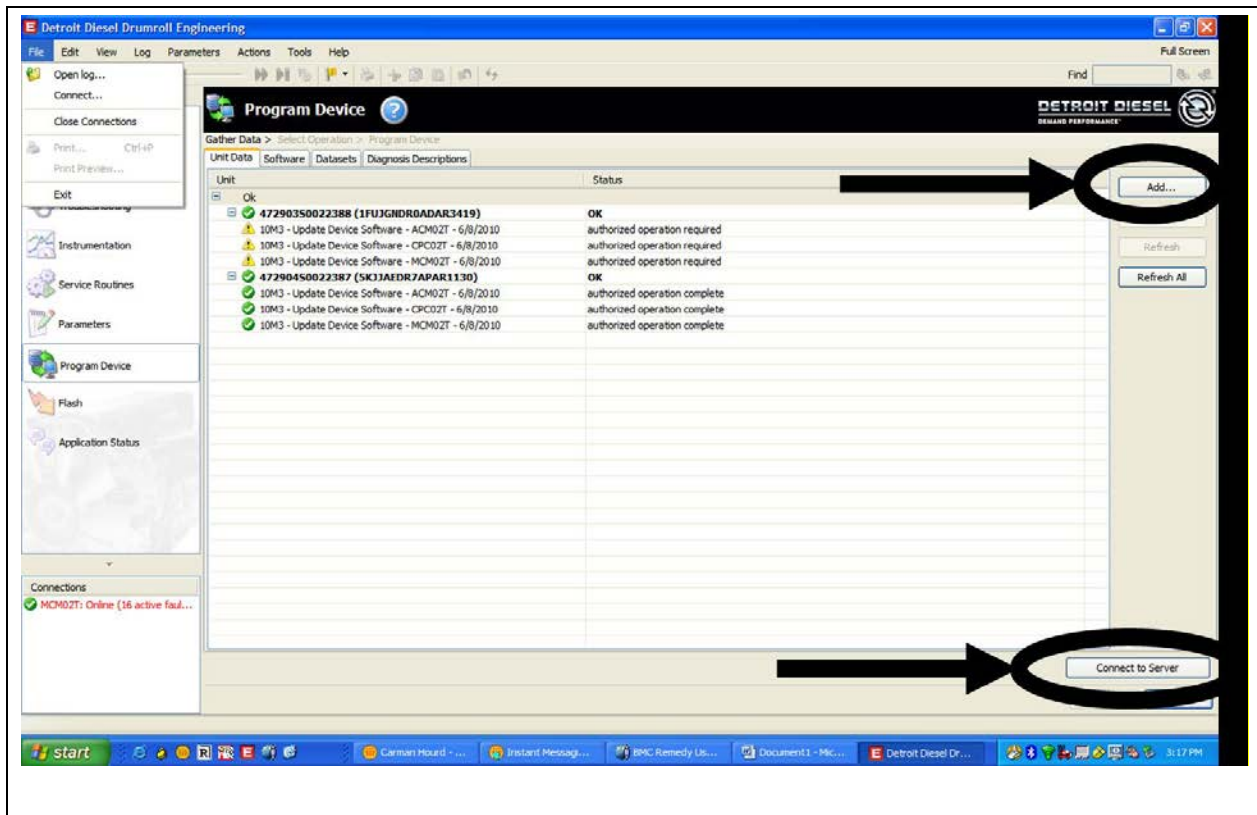

Fig. 4, Adding Engine Serial Number and Connecting to Server
7. Select the “Add” button in the upper right corner of the DiagnosticLink® screen and enter the engine serial number. Then click the “Connect to Server” button in the bottom right corner of the DiagnosticLink® screen. See Figure 4.